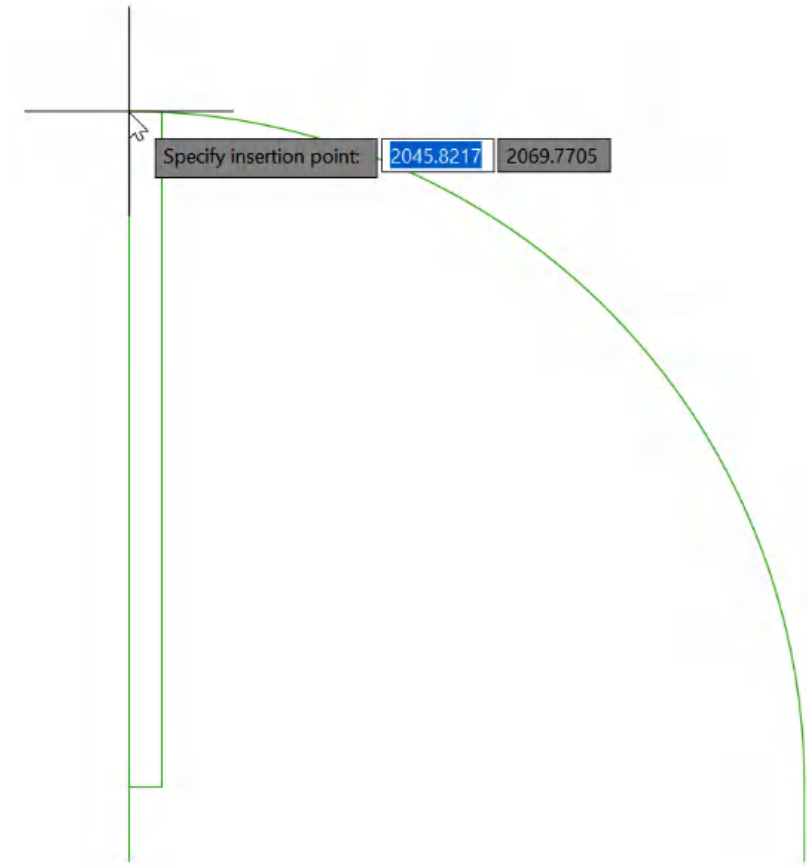

Figure 9.20: The door block with insertion point prompt displayed
5. Click on the new drawing tab you created in the file tabs earlier. In the new blank drawing, right-click to display the shortcut menu and select **Clipboard** again. Select **Paste** from the sub-menu, and the door block appears on your cursor, as shown in *Figure 9.20*. As per the prompt, click anywhere in the drawing area as an insertion point. The block is now in the new drawing and has even brought along the layer it was on (**Doors** – you can check this in the **Layer** drop-down menu if you wish).